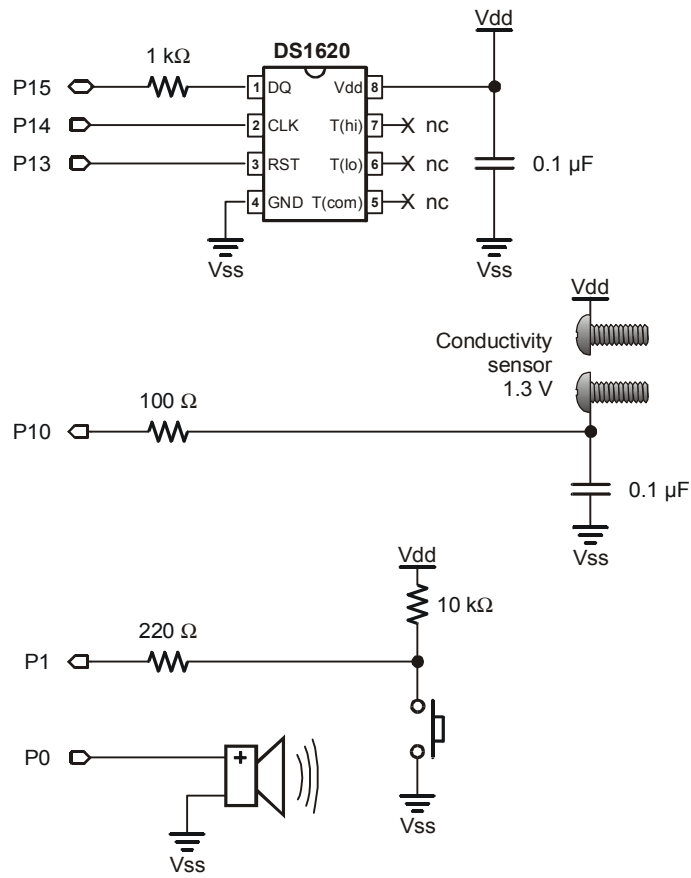
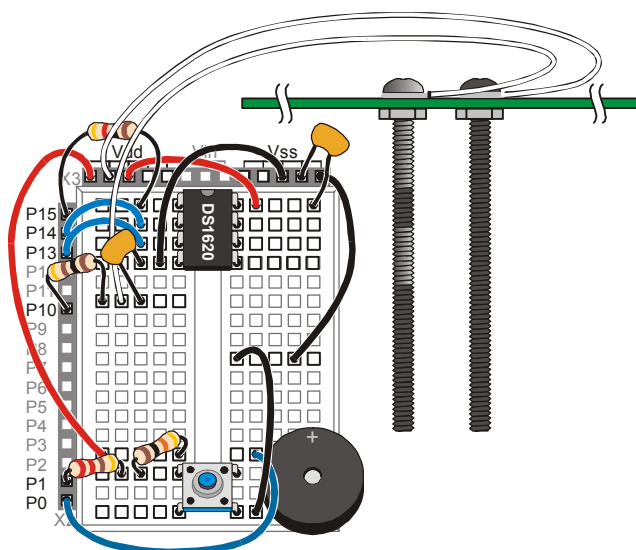

Figure 3-4
Figure 3-5
- ✓ Build the circuit shown in the schematic (Figure 3-4) and the wiring diagram (Figure 3-5).
- ✓ Now, remove the conductivity sensor circuit that was shown in Figure 3-4 Figure 3-5, leaving all of the other circuits in place.